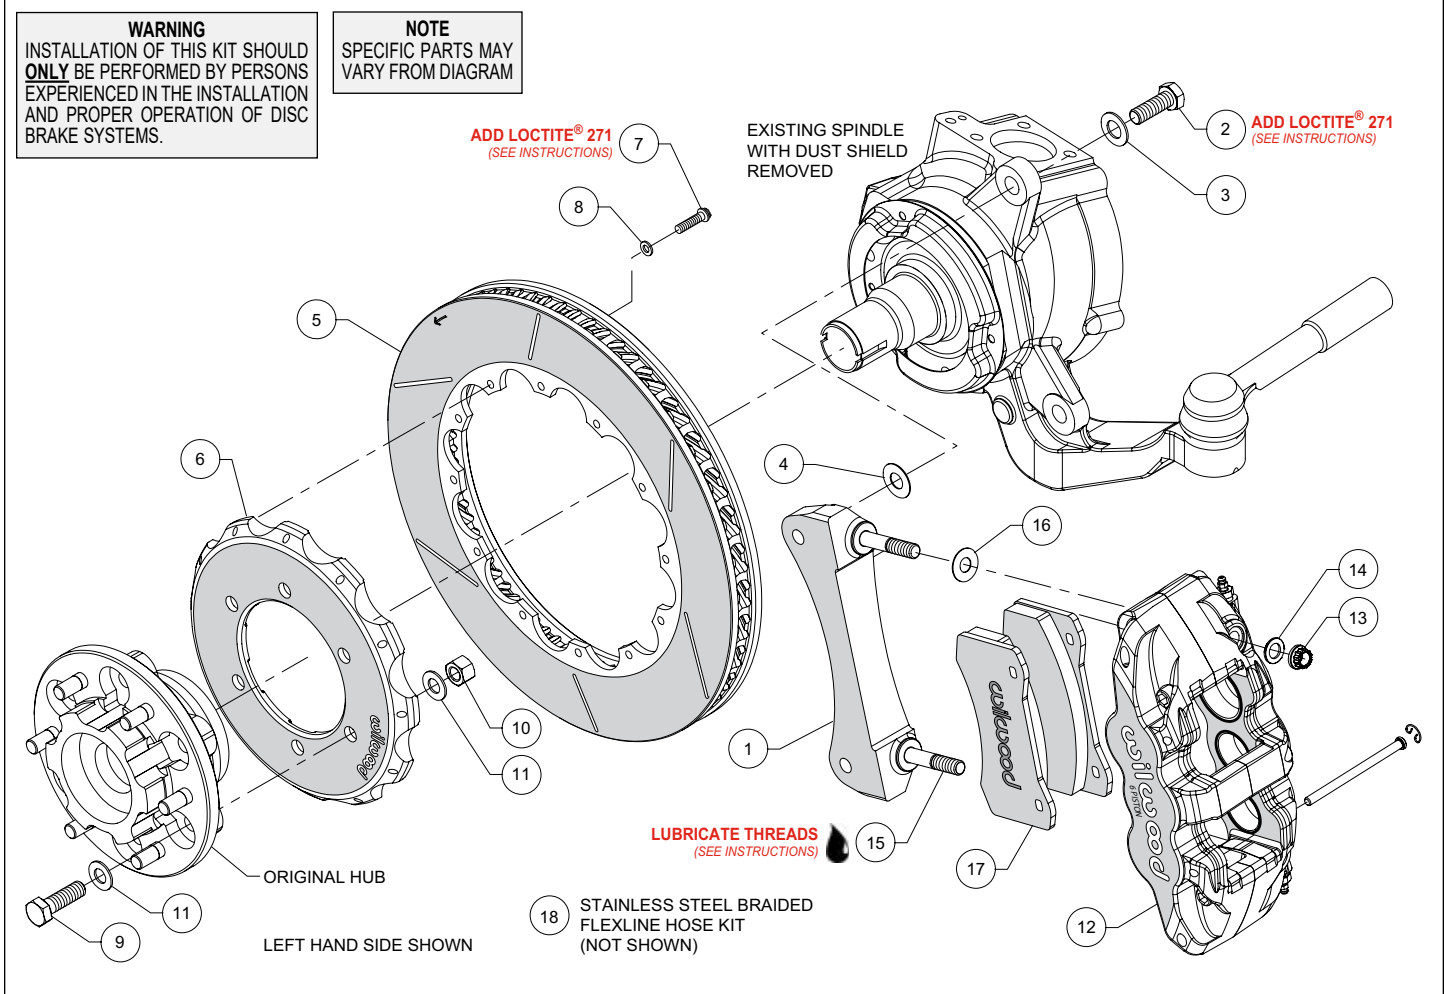
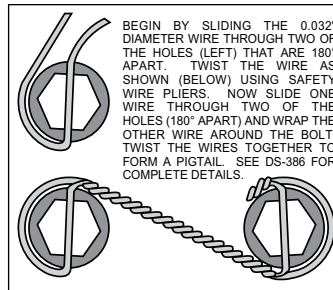

Figure 1. Typical Installation Configuration
Figure 3. Safety Wire Diagram
Assembly Instructions (numbers in parenthesis refer to the parts list and Figure 1 on the preceding pages):
- The caliper mount bracket (1) should initially be installed with clean, dry threads on the mounting bolts. Orient the bracket as shown in Figure 1 and Photo 1, install using bolts (2) and washers (3). Initially place one .029 thick shim (4) on each bolt between the bracket and upright, Figure 1. Temporarily tighten the mounting bolts. **NOTE: The bracket must fit squarely against the mount bosses on the upright.** Inspect for interference from casting irregularities, machining ridges, burrs, etc. Later, after the caliper alignment has been checked, the mount bolts will be secured using red *Loctite*® 271.
- Orient the rotor (5) and the hat (6) as shown in Figure 1 and Photo 2. Attach rotor to hat using bolts (7) and washers (8). Apply red *Loctite*® 271 to the bolt threads and torque to 155 in-lb using a criss-cross pattern. For an added measure of security, the bolts may be safety wired using standard 0.032 inch diameter stainless steel safety wire as shown in Figure 3. Please refer to Wilwood's data sheet DS-386 (available at www.wilwood.com/Pdf/DataSheets/ds386.pdf) for complete safety wire installation instructions.
- Install the saved OEM hub to the hat (6) using bolts (9), lock nuts (10) and washers (11) as shown in Figure 1, Photos 3 and 4. **NOTE: The hat must fit flush against the hub flange or excessive rotor run out may result.** Torque the lock nuts to 60 ft-lb.
- **NOTE: This kit contains distinct right and left hand calipers that must be mounted in a specific direction, as described below.** Lubricate the caliper mounting studs (15) with lightweight oil. Initially place one .030" thick shim (16) on each stud as shown in Figure 1 and Photo 6. Mount the caliper (12) onto the bracket (1) using lock nuts (13) and washers (14), Figure 1. Ensure that the caliper is mounted so that the largest pistons are at the rotor exit end of the caliper, in relation to the direction of rotor rotation. Temporarily tighten the lock nuts and view the rotor through the top opening of the caliper. The rotor should be centered in the caliper, Photo 7. If not, adjust by adding or subtracting shims (4) between the bracket and the upright. Always use the same amount of shims on each of the two mounting bolts. Once the caliper alignment is correct, remove the bracket mounting bolts (2) one at a time, apply red *Loctite*® 271 to the threads, and torque to 105 ft-lb.
the bottom, Figure 1 and Photo 8. With the friction material facing the rotor, secure the brake pads in place with the pad retaining pins and clips, Photo 9. Reinstall the caliper onto the caliper mounting bracket and temporarily tighten the lock nuts. Check that the top of the brake pad is flush with the outside diameter of the rotor, Photo 10. If not, adjust by adding or subtracting shims (16) between the caliper and the bracket. After the caliper pad height is set, torque the caliper lock nuts (13) to 47 ft-lb.